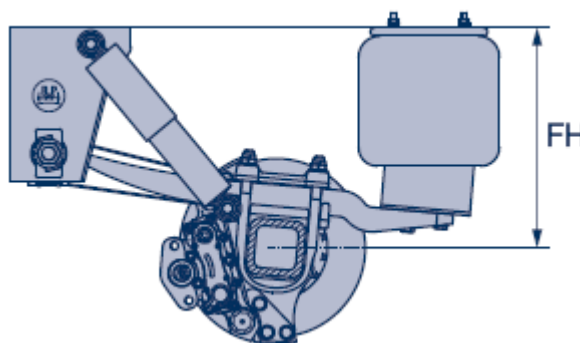

Figure 3
3. The suspension must be fully charged and the trailer must be set to its correct ride height. The ride height (FH) is measured from the axle center to the lower edge of the frame, see Figure 3.